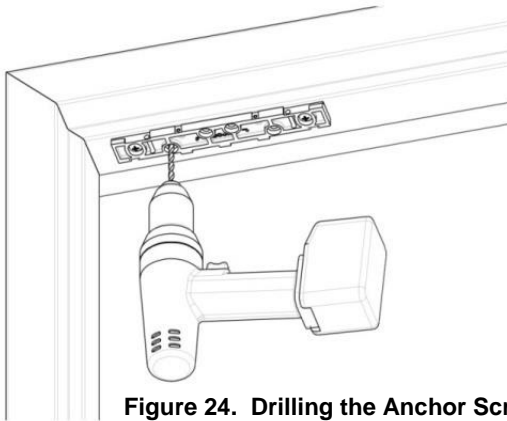

Figure 24. Drilling the Anchor Screw Holes
6. Using the mounting bracket as a template, DRILL the four remaining holes in the frame for the anchor screws as follows (see Figure 24. Drilling the Anchor Screw Holes”):